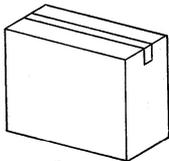

Fig. 5—Pedestal Carton
3.05 Carefully trim carton containing pedestal upside down and cut tape. Fold carton flaps out (Fig. 5).